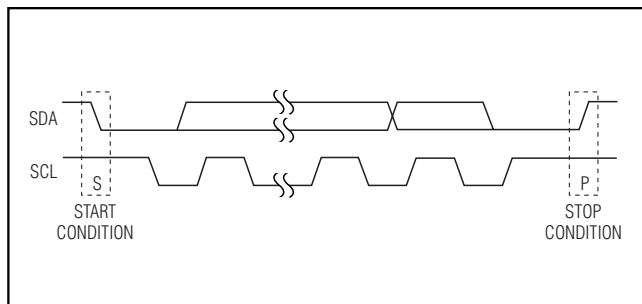

Figure 2. START and STOP Conditions
addresses plus R/W bits, one or more data bytes, and finally a STOP condition (Figure 2).
Both SCL and SDA remain high when the interface is not busy. A master signals the beginning of a transmission with a START (S) condition by transitioning SDA from high to low while SCL is high. When the master has finished communicating with the slave, the master issues a STOP (P) condition by transitioning SDA from low to high while SCL is high. The bus is then free for another transmission (Figure 2).